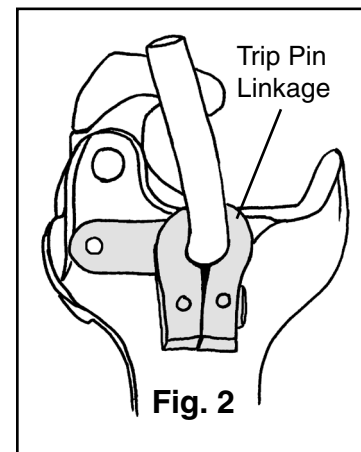

Fig. 2
**2)** Mount trip pin linkage onto coupler trip pins. see **Fig. 2**